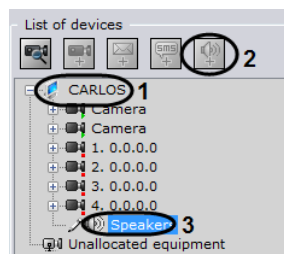

Fig. 6.4—29 Creating a Speaker object
1. In the list of devices, highlight a **Server** object (Fig. 6.4—29, 1)
2. Click the  button (see Fig. 6.4—29, 2).